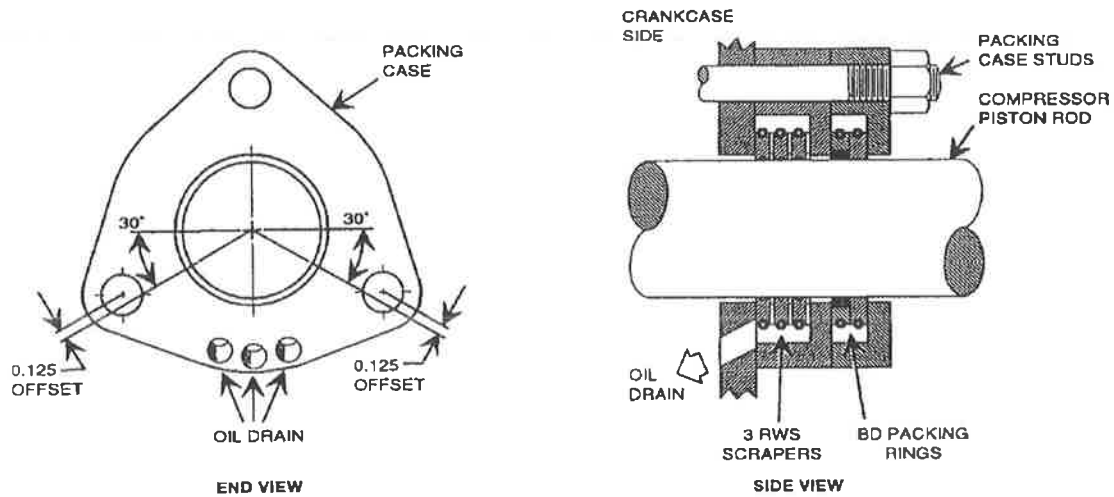

Figure 4-22. Piston Rod Oil Scraper Packing
Current stuffer and oil scraper ring arrangements are illustrated in Figure 4-22. Some distance pieces are equipped with a set of double-acting (Type BD) seal rings located in the gland closest to the cylinder. For those applications requiring a purged distance piece (2) standard sets of (3) 3RWS rings are used. This helps to seal the distance piece.
Renewal oil scraper rings are furnished in sets. The ring segments are usually numbered and adjacent segments must match. With the current design shown in Figure 4-22, the radially cut grooves on the scraper rings should face the cylinder and the flat faces of the rings should face the crosshead. The packing rings can face either direction.